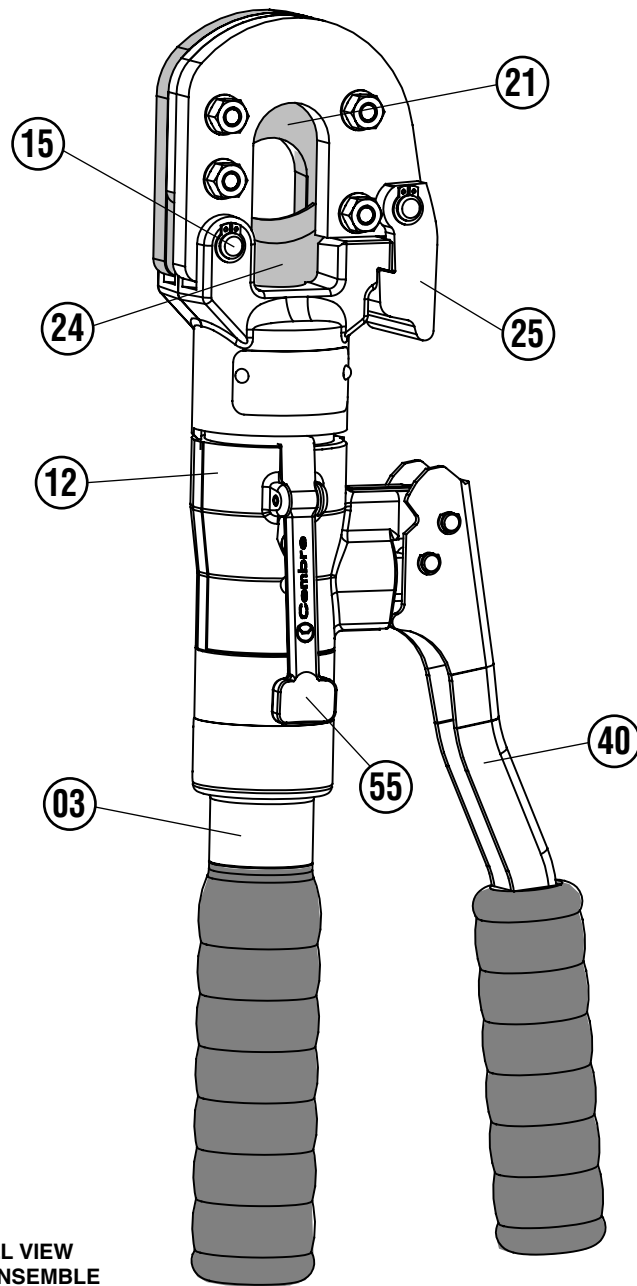

FIG. 1 OVERALL VIEW
2. INSTRUCTIONS FOR USE (Ref. to Fig. 1)